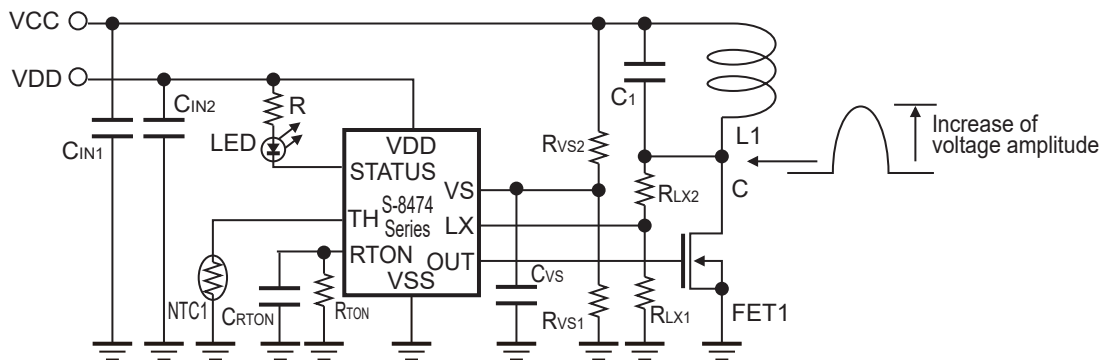

Figure 49
- For VCC in **Figure 49**, do not use a power supply which might cause frequency component amplitude of 1kHz to 110kHz (LC resonant frequency). It may result in a malfunction.
- For VDD in **Figure 49**, do not use a power supply which might cause frequency component amplitude to prevent from malfunction.
- When designing the board in **Figure 49**, for the following reasons, do not place a wiring near the RTON pin, the VS pin, and the TH pin. Layout so that resistor R_{TON} is as close to the RTON pin as possible.
(1) Due to coil L1 and resonant capacitor (C_1), large voltage fluctuation is generated at point C.
(2) Since impedance in the RTON pin, the VS pin, and the TH pin is high, they are easily affected by an extraneous signal.